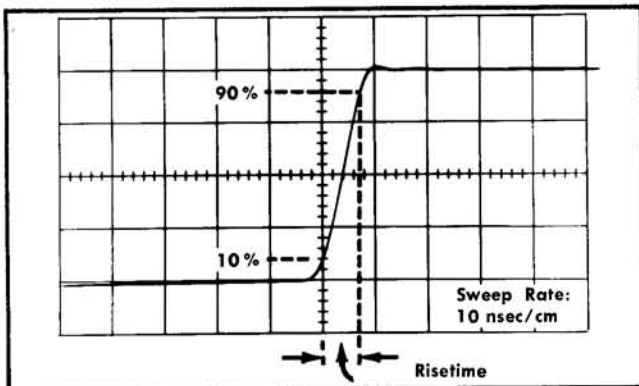

Fig. 6-2. Typical display showing correct gain adjustment.
- e. CHECK—CRT display for exactly 4 cm of vertical deflection (see Fig. 6-2).